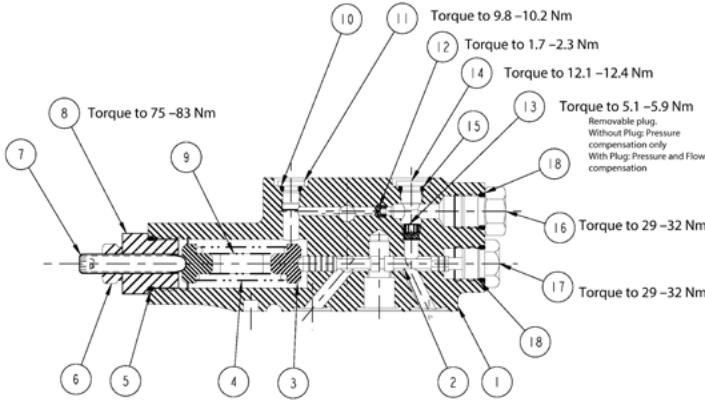

Figure 16
3. Remove the screw plug (Figure 16⑨⑩).
4. Remove the pressure valve core (Figure 16⑧).
5. Remove the assembly of the screw plug (Figure 16⑤), the adjusting rod (Figure 16④) and the lock nut (Figure 16⑧).
6. Remove the pressure compensator spring (Figure 16③) and the two spring seats (Figure 16②).
1. Install the pressure valve core (Figure 16⑧).
2. Install the screw plug (Figure 16⑨⑩) and tighten it with a torque ranging from 9.8 to 10.2 Nm.
3. Install the pressure compensator spring (Figure 16③) and the two spring seats (Figure 16②).
4. Install the assembly of the screw plug (Figure 16⑤), the adjusting rod (Figure 16④) and the lock nut (Figure 16⑧), and tighten the screw plug with a torque of 75 - 83 Nm.